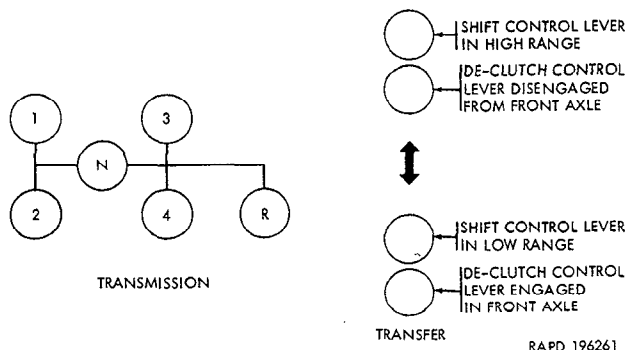

Figure 2-150. Transmission and transfer shift diagram.
(1) Place the vehicle on a level floor and release the handbrake lever (S, fig. 2-91). Place transmission gearshift lever (W, fig. 2-91) in the neutral position. Disengage the front axle (fig. 2-150).